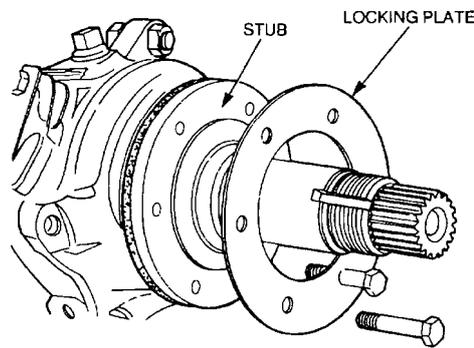

Figure 254 Removing the Stub Axle
- c. Remove the bolts and locking plate retaining the hub stub axle to the swivel pin housing (Figure 254) and remove the stub axle.